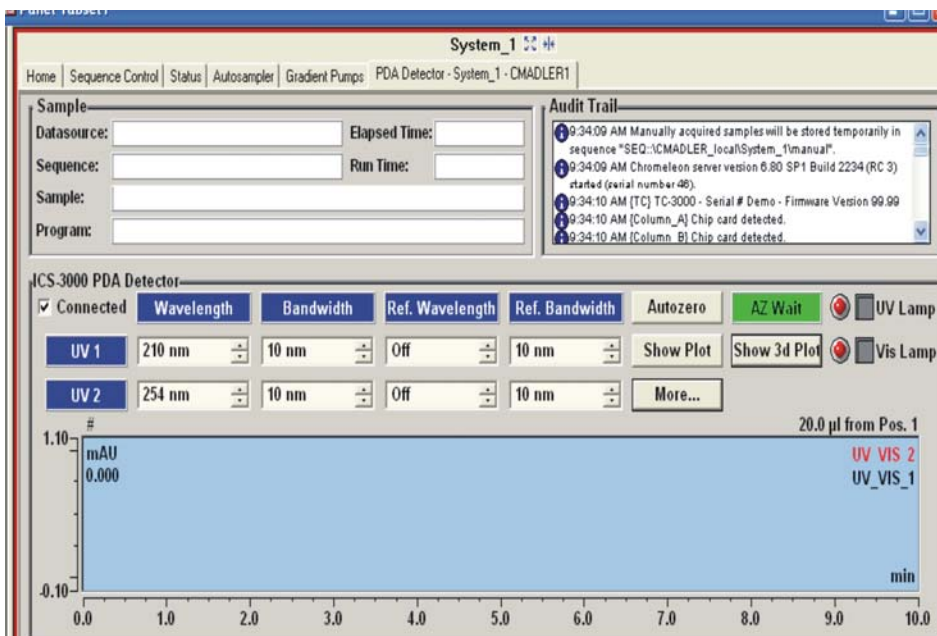

Figure B-10. Example Dionex PDA Control Panel in Chromeleon 6.8
3. To display the Dionex PDA Control panel (see Figure B-10), select the **Dionex PDA** tab on the panel tabset. The Control panel provides access to Dionex PDA functions, as well as detailed status and diagnostics information.